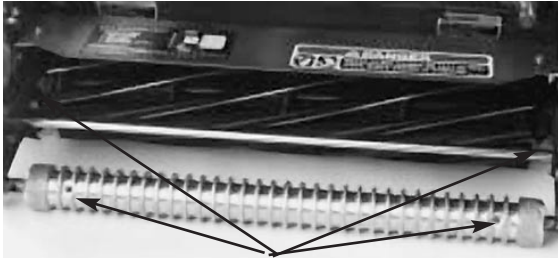
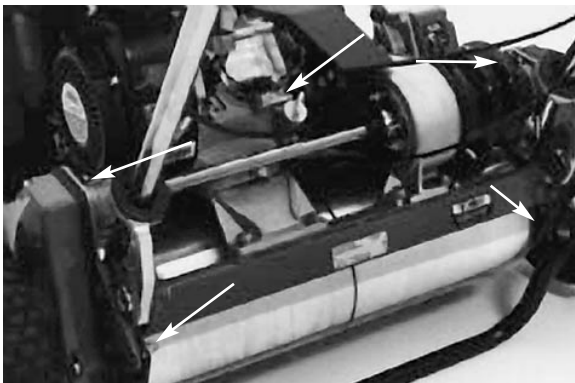

Figure 17
Figure 18
2. The grease fitting locations are: (2) on the front roller (Fig. 17), (2) on the reel bearings (Fig. 17), (2) on the drum axles (Fig. 18), (3) on the differential (Fig. 18), (2) on the reel countershaft bearings (Fig. 19) and (2) on the belt idler pivots (Fig. 20).